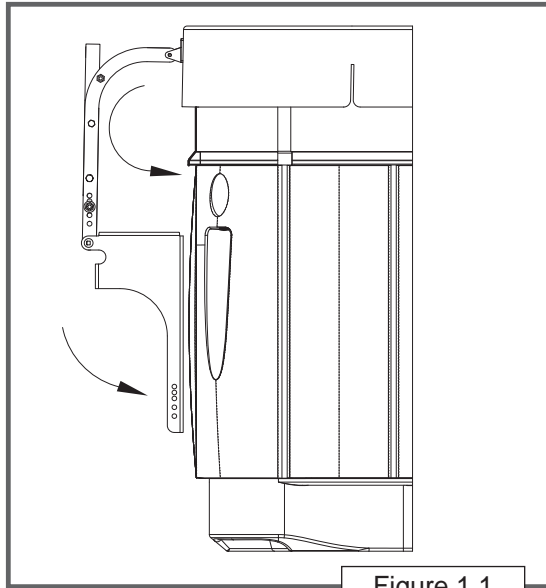

Figure 1.1
1. Rotate Pivot Assemblies until the bottom (Mounting Bracket) touches the side of the spa (Figure 1.1).